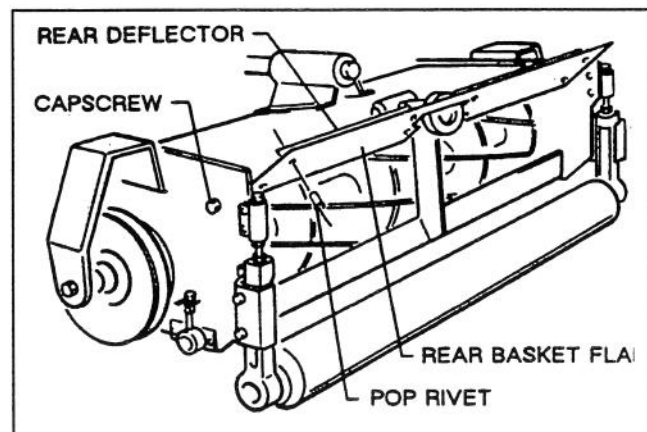

Figure 7
2. Loosen cutting unit rear deflector mounting capscrews and pivot deflector upward to gain access (Fig. 7).